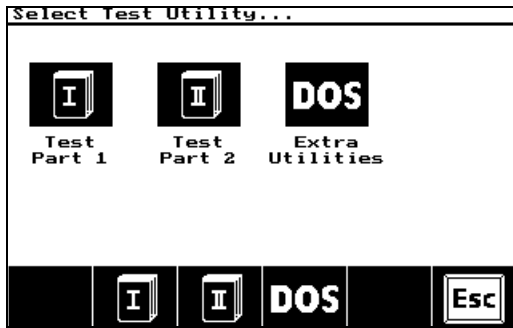

Figure 2
- Now press the System Test  softkey. You should now see the screen in Figure 2.